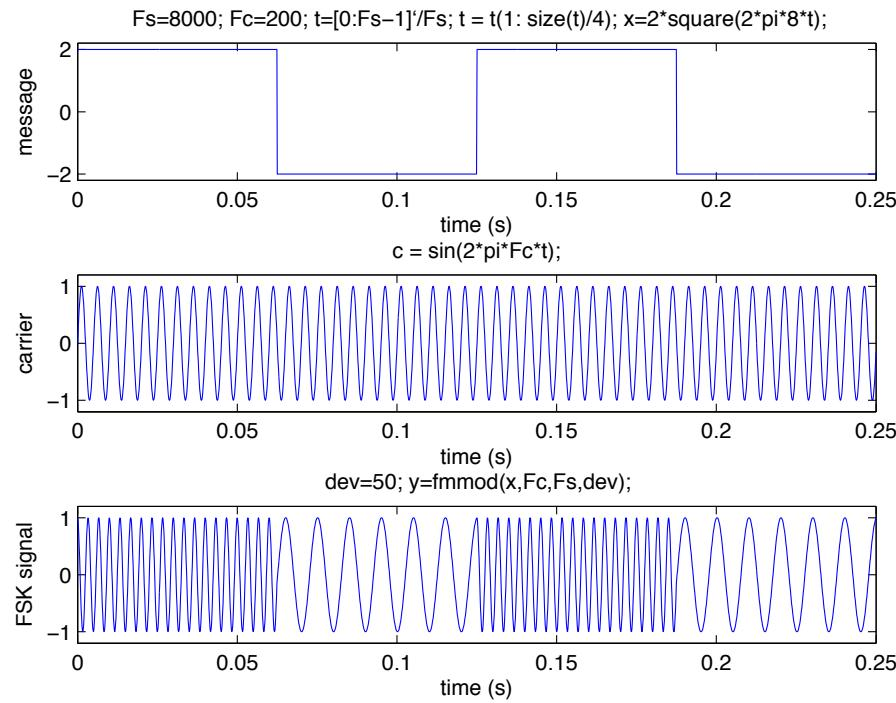

Figure 19:
When the message signal is binary, with two possible amplitudes, the FM signal would oscillate between two frequencies. The frequency of the FM signal that corresponds to logical-0s (or at low amplitude) is normally referred to as the *space frequency*, while that corresponds to logical-1s (or at high amplitude) is referred to as the *mark frequency*. The resultant FM signal, as shown in Figure 19, is called binary FSK or simply as FSK. As expected, FSK is more robust to noise and amplifier non-linearity, compared to Amplitude Shift Keying (ASK). Note further that, the frequency of the message signal affects the rate at which the FM (or FSK) signal deviates from the carrier's rest frequency.
10. Try to obtain an output from the VCO that is similar to the FM signal shown in Figure 19. You may need to tweak the VCO module's Gain control.